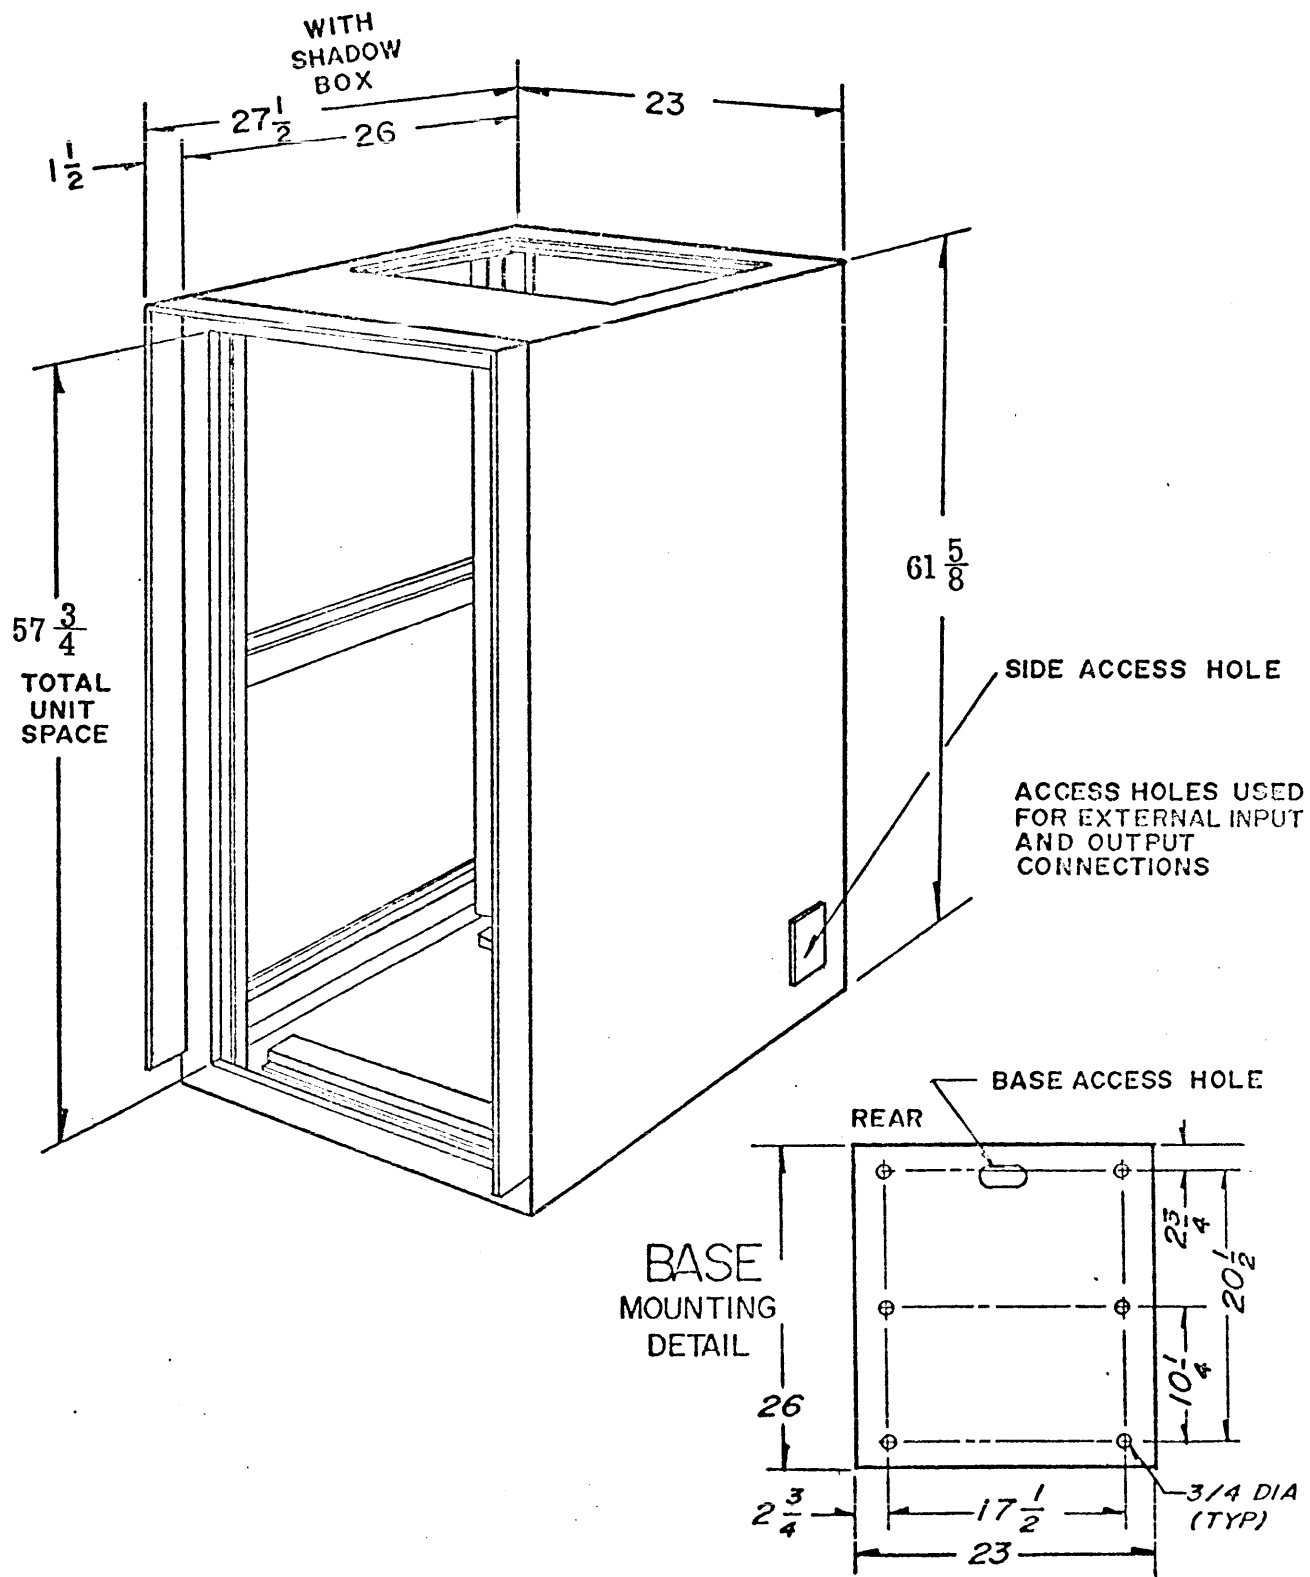

Figure 2-1. SYM3202 Cabinet Dimensions
(1) Cabinet Location. The equipment cabinet may be located in any enclosure (room, deck or van) with sufficient clearances and with adequate ventilation. The cabinet dimensions and mounting details are shown in figure 2-1.
A clearance of approximately two feet should be left on the sides, rear and top of the equipment cabinet for ease of access and for adequate heat dissipation. In addition to the cabinet depth dimension (shown in figure 2-1) is the extension of the console table (shown in figure 2-2); the console table extends approximately 13-1/2 inches out from the edge of the cabinet.